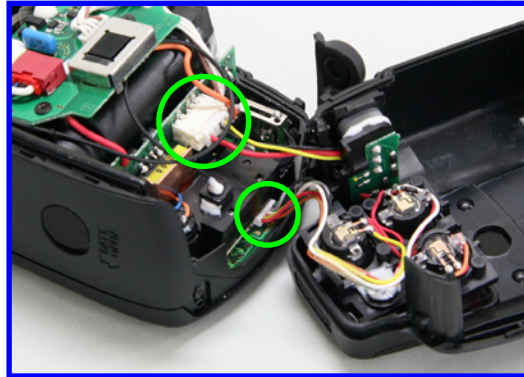

Fig. 008 Front Cover Connectors
- ③ Disconnect the two connectors from the Front Cover Ass'y. (Fig. 008)